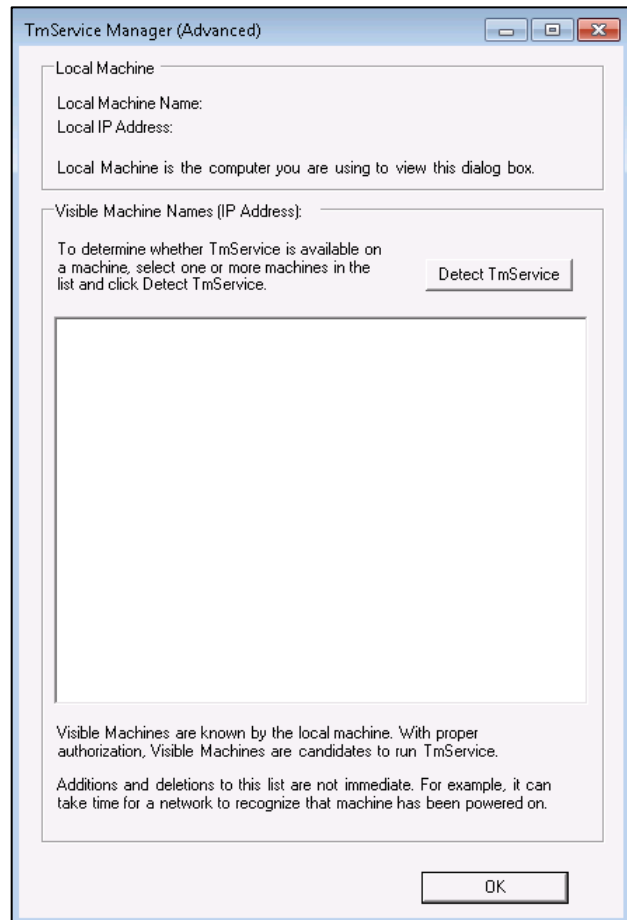

Figure G-2 TmService Manager (Advanced) Dialog Box
6. Click *Advanced* to open the *TmService Manager (Advanced)* dialog box (Figure G-2). The *Visible Machines* list displays computers and their IP addresses that are accessible to the local machine over the network.